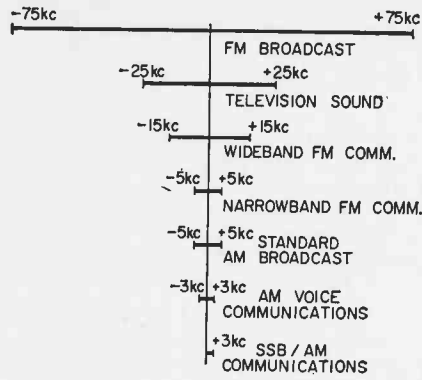

Fig. 5. Bandspace taken by different services.
**Characteristics of FM Signals.** For 100 percent modulation, the carrier frequency of an FM broadcasting transmitter is deviated plus and minus 75 kc. The signal requires a minimum of 150 kc. of bandspace. However, the FCC allows each station a slot 200-kc. wide. Furthermore, even though the FM channels are 200 kc. apart, stations in the same area are usually spaced a minimum of 800 kc. apart. See fig. 5.